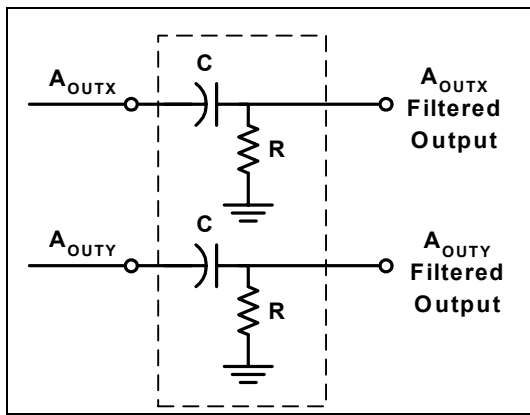

Figure 3: High Pass Filter
**AC Coupling:** For applications where only dynamic accelerations (vibration) are to be measured, it is recommended to ac couple the accelerometer output as shown in Figure 3. The advantage of ac coupling is that variations from part to part of zero g offset and zero g offset versus temperature can be eliminated. Figure 3 is a HPF (high pass filter) with a  $-3\text{dB}$  breakpoint given by the equation:  $f = 1/2\pi RC$ . In many applications it may be desirable to have the HPF  $-3\text{dB}$  point at a very low frequency in order to detect very low frequency accelerations. Sometimes the implementation of this HPF may result in unreasonably large capacitors, and the designer must turn to digital implementations of HPFs where very low frequency  $-3\text{dB}$  breakpoints can be achieved.